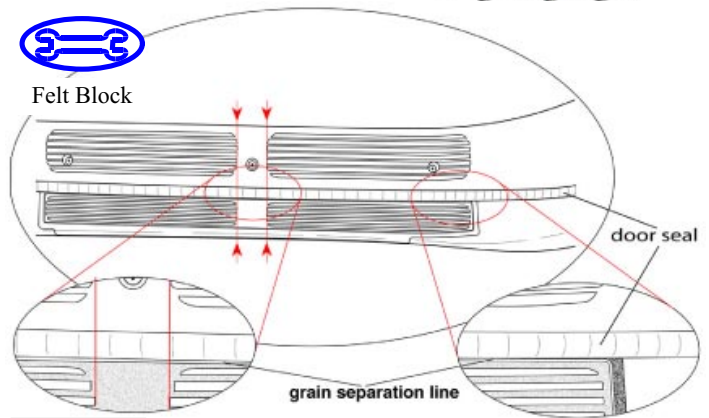

Fig. D-1
- ➡ 2. Hold applique taut from each end and carefully work under door seal. Align center of applique with center of scuff plate. Align the outside border (grain separation line) of the applique visually directly below outer edge of door seal. (Fig. D-1)